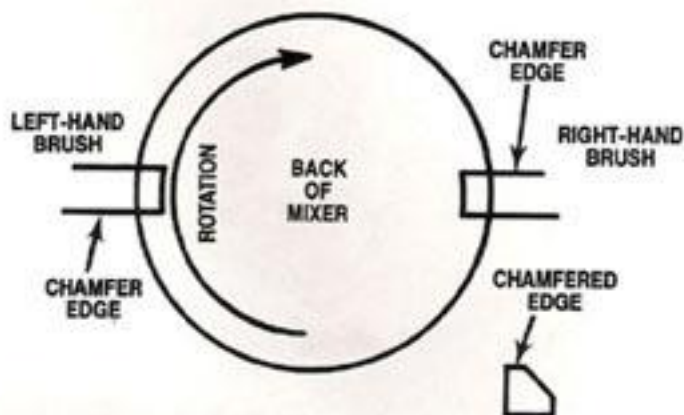

Fig. 35
- B. Clean the brush holder inserts with solvent and wipe them dry with a clean dry cloth. Install the brush holder inserts into brush holder housings. They must be oriented, viewing the gear case and motor housing from the rear, as shown below (Fig. 35). Lock the brush holder housings with insert in place with the #10-24 x 1/4" cup point setscrews.